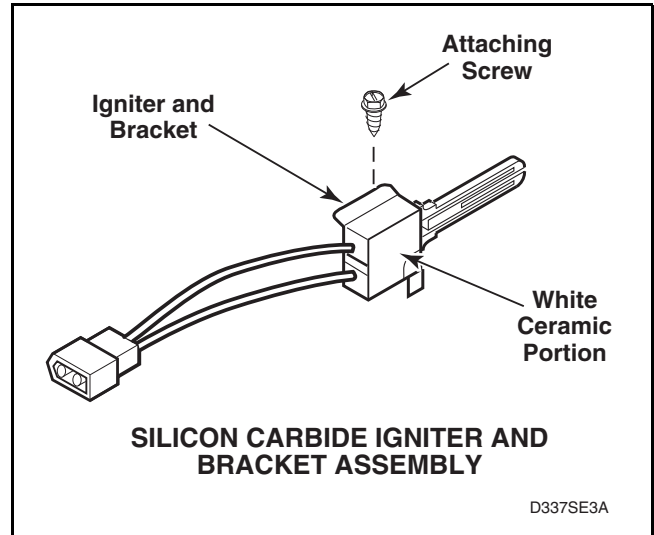

Figure 18
- Silicon Carbide Igniter** – meter should read between 45 – 200 Ohms. Refer to *Figure 18*.